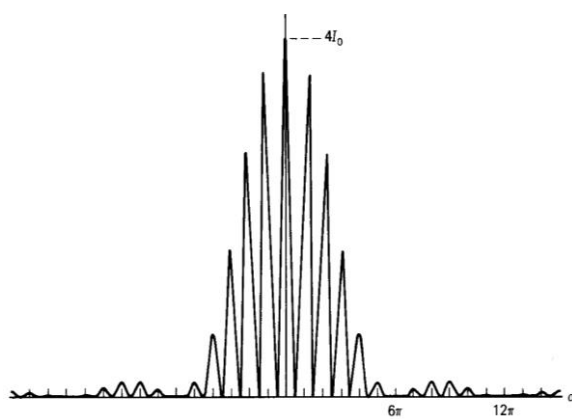

Fig.3
- For interference pattern, when a coherent light source goes through two distinct slits at a desired distance d apart, the two light waves emitted from the two slits S_1 and S_2 act as two individual point sources with identical properties (amplitude, initial phase, wavelength etc) according to **Huygen’s Principle**. Here, we assume that the two slits are of *infinitely small* (if not, the interference pattern will be a combination of both interference and diffraction patterns, as shown in Fig.3). The waves beyond the slits transmit in ripple form, which then overlap with each other at a distance D from the slit plane (as shown in Fig. 1).
Final result: The final result of the real Young double slit experiment is shown in Fig. 3. In this pattern, *make sure you can distinguish which peak is the first maximum of the interference pattern and which is the maximum peak of the diffraction pattern!!*